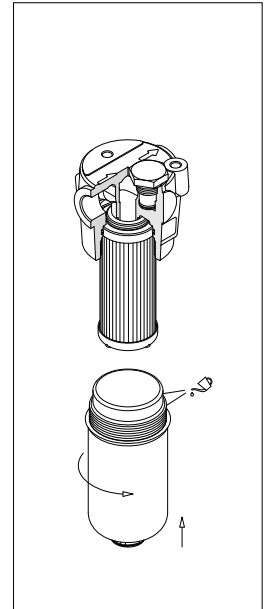

fig. 8
- (Fig. 8) Lubricate the thread of the bowl, then screw the bowl in referring to the tightening torque table in paragraph 3